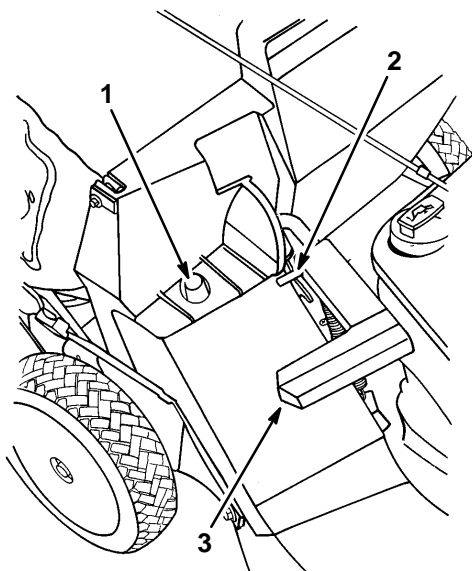

Figure 14
2. Ensure discharge door handle is fully forward and pin is engaged in catch (Fig. 14).
3. **INSTALLING BAG**—Slide hole in bag frame onto retaining post on discharge tunnel (Fig. 14). Set rear of bag frame onto lower handle.
5. EMPTYING BAG—Stop engine and wait for all moving parts to stop. Raise discharge door handle and move it forward to engage the locking pin with the catch (Fig. 14). Grasp handles at front and rear of bag and lift bag off mower. Gradually tip bag forward to empty clippings.